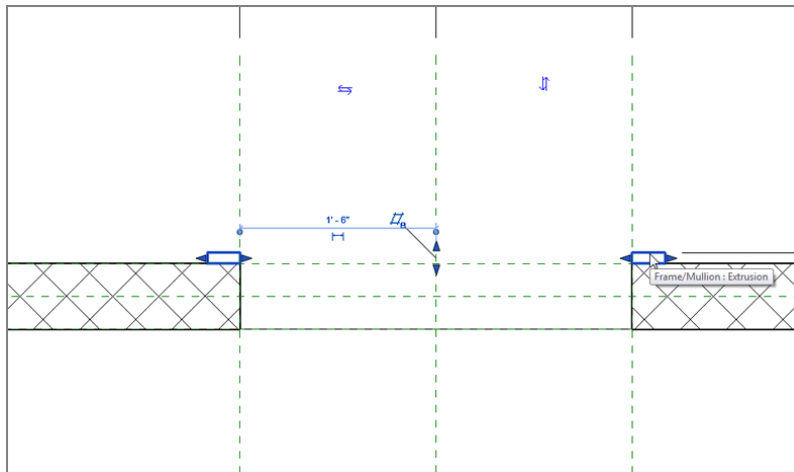

FIGURE 17.13: Deleting the jambs from either side of the door
3. Quite a bit of work has been done for you. This is great, but you don’t need all the items in the template. Select the door jambs, as shown in Figure 17.13, and delete them from either side of the door.